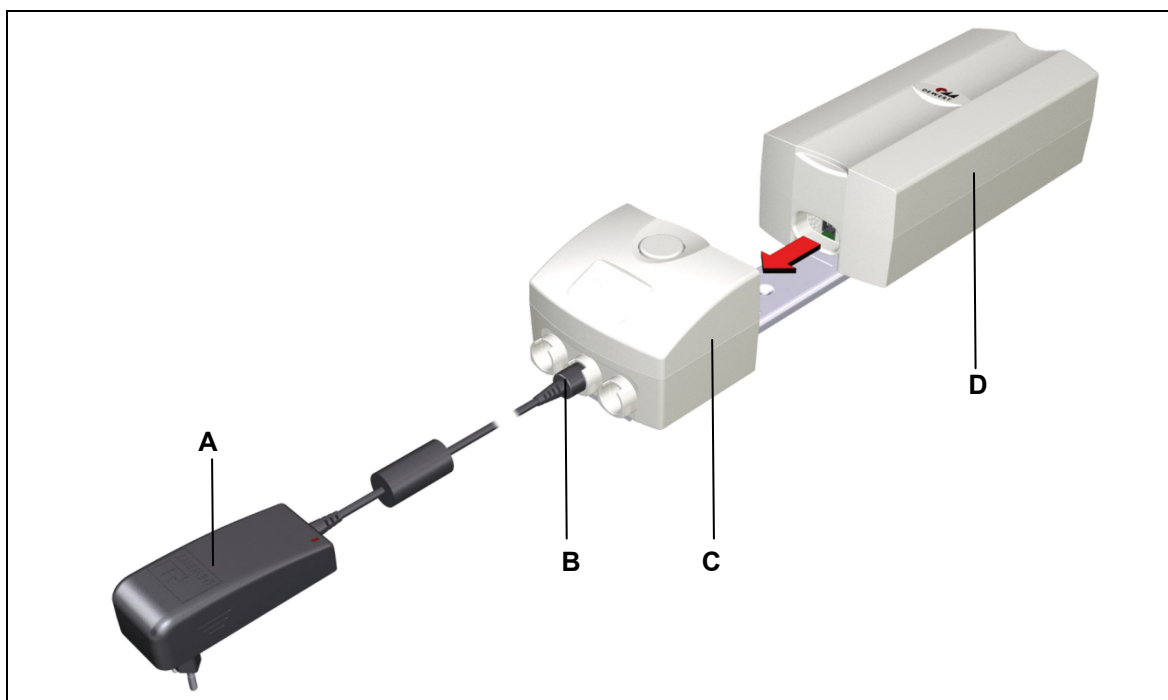

Figure 20 Charging the ACCU AC 4.5 and ACCU AC 4.5DC at the charging station
- 5** Connect the PLUG-IN CHARGER PB 4.5 to the charging station (as shown in Figure 20).